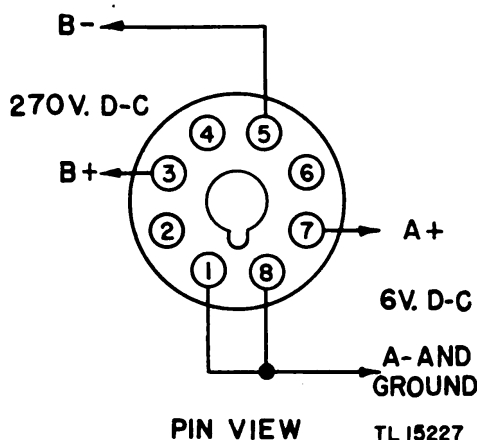
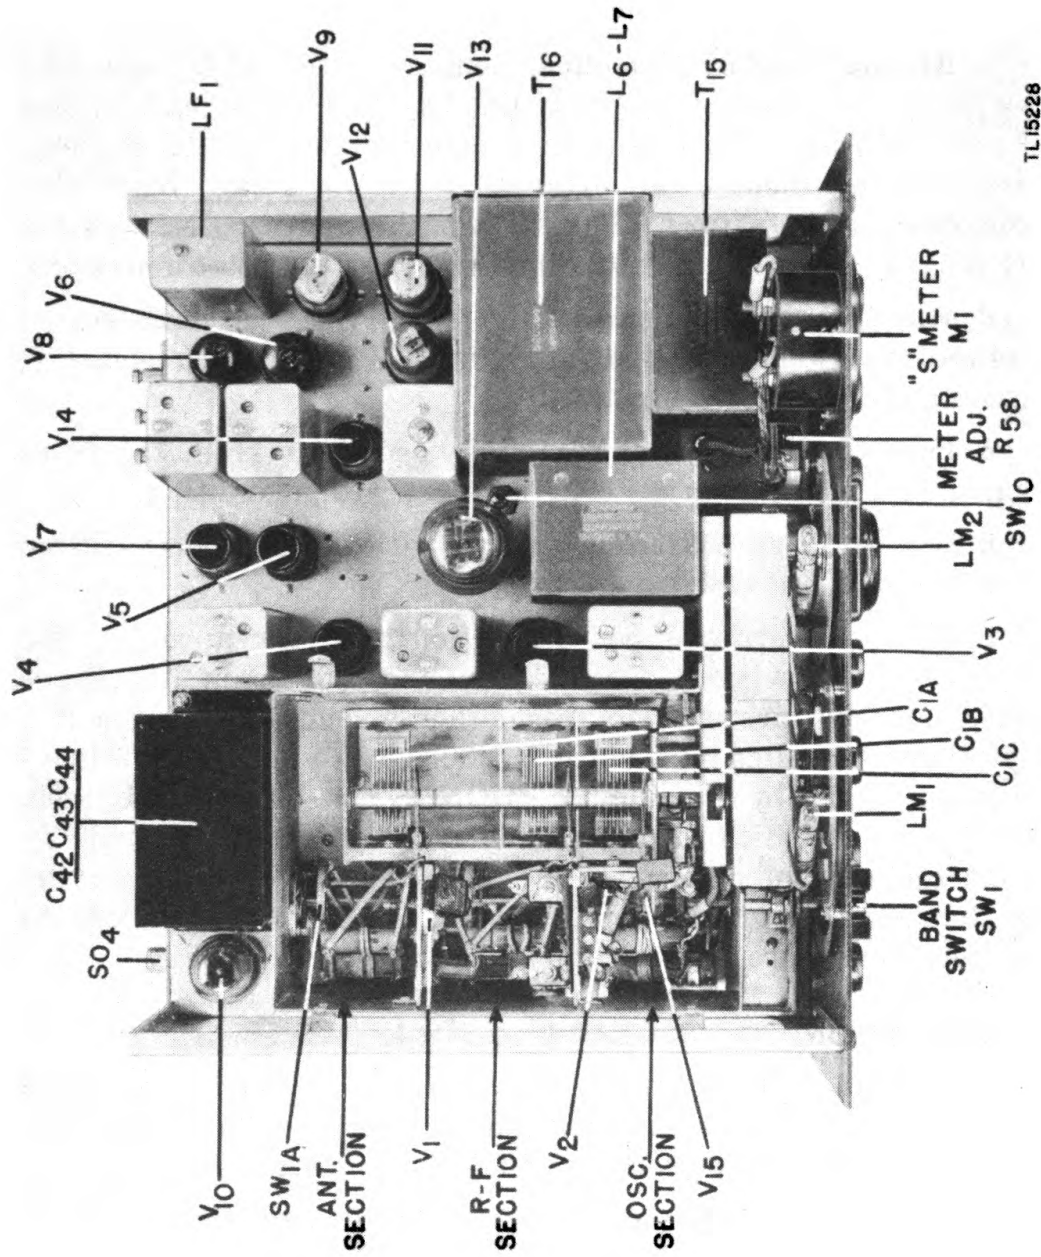

Figure 3. Radio Receiver BC-787-B, wiring diagram for d-c power plug.
Figure 4. Radio Receiver BC-787-B, top view, r-f shield cover removed.
a. A-c Operation. The receiver may be operated from either a 115-volt or 230-volt, 50/60-cycle, a-c power source. Check the setting of switch SW10, shown in figure 4, and see that it is set for the line voltage to be used. If the set is to be operated from an a-c line, plug PL2 (furnished wired as shown in figure 22) must be in socket S01 located on the rear apron of the chassis. This is necessary to provide continuity in the power circuits (figs. 3 and 22).
b. D-c Operation. The receiver may be operated from external batteries delivering 6 volts at 4.5 amperes and 270-volts at 145 milliamperes. If such operation is desired, connect the batteries to the unwired duplicate of plug PL2 (furnished as an accessory) as shown in figure 3. This plug should then replace plug PL2 in socket S01.